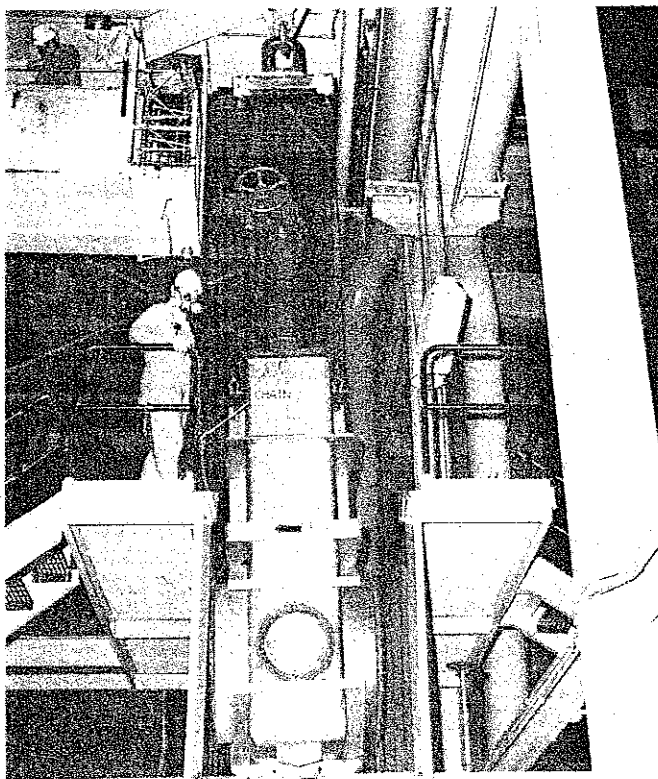

FIG. 11 REMOVAL OF VALVE
9. Move the block valve to an open area behind the cell (Fig. 11).